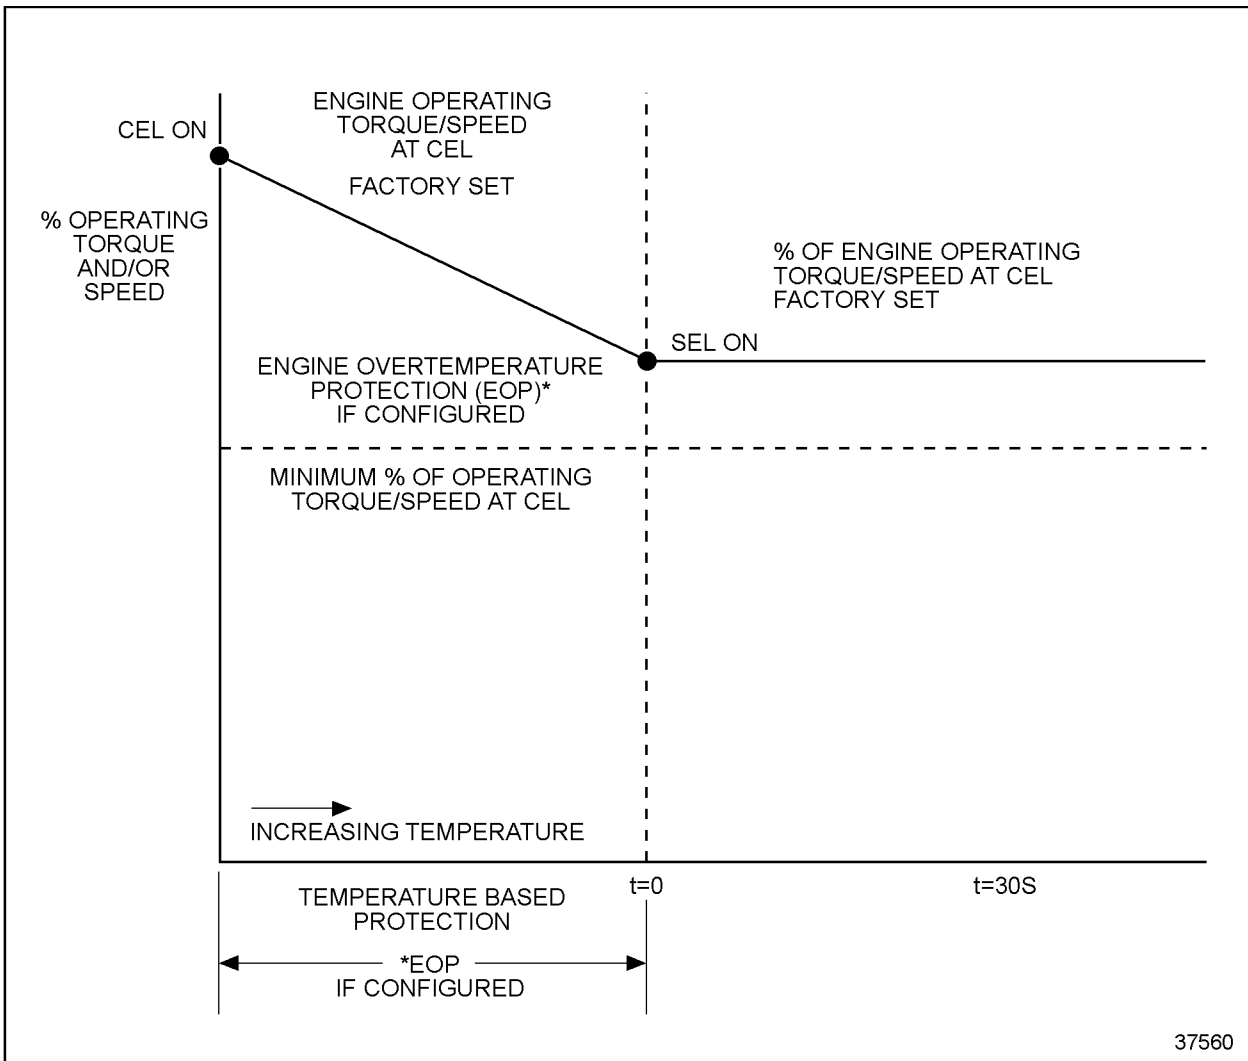

Figure 5-16 Engine Overtemperature Protection and Warning Only
- Warning only (see Figure 5-16)